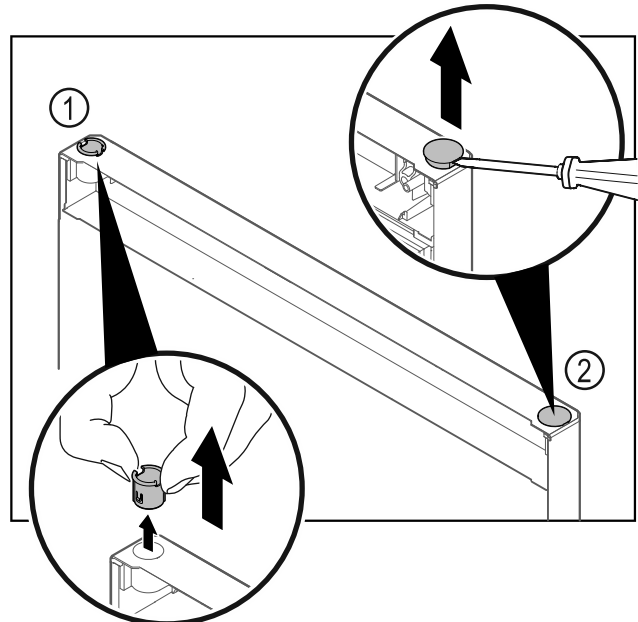

Fig. 29
- Pull out the hinge bushing Fig. 29 (1) with your fingers.
- Carefully lift the cover plug Fig. 29 (2) with a slotted screwdriver and pull it out.